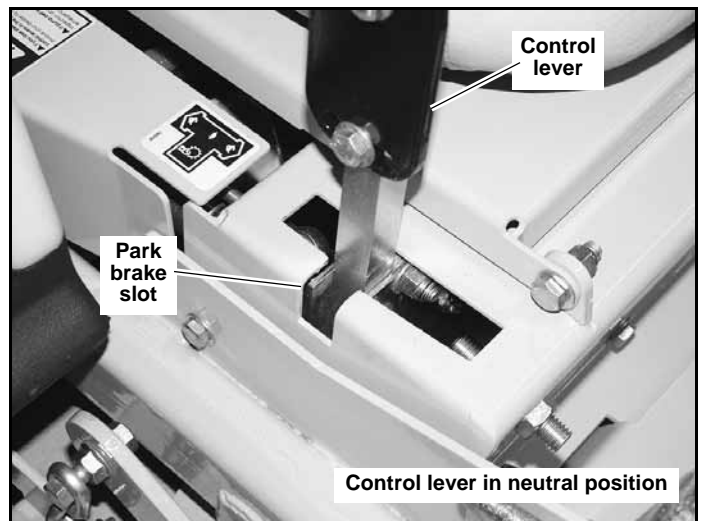

Figure 4-2
5. Position the steering control lever in the neutral position and observe which way the wheels are rotating. Figure 4-2